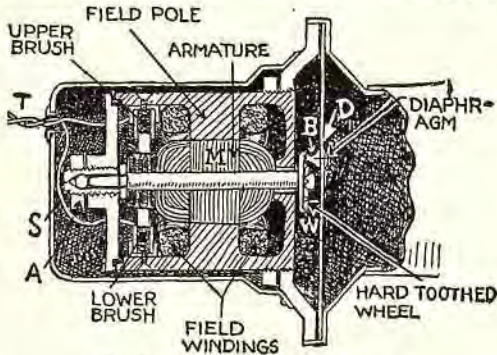
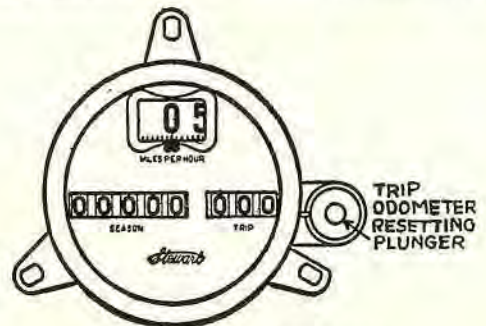
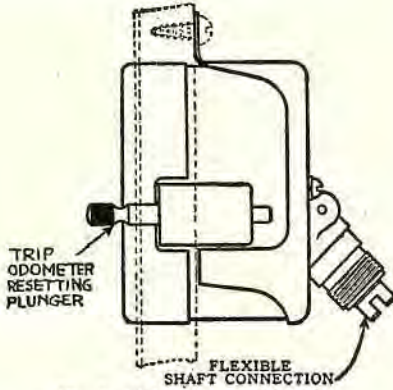
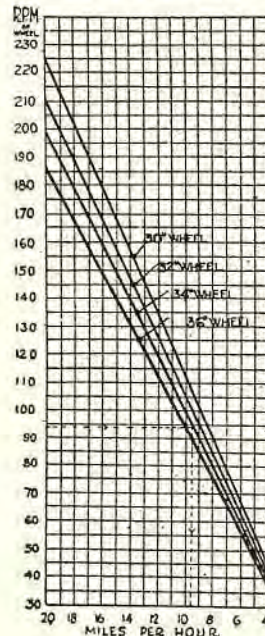

Fig. 5. Motor type of electric horn.
Fig. 8. Front view of speedometer.
Fig. 9. Side view of speedometer.
Fig. 10
Construction: An electric motor (M) (Fig. 5) of small size is enclosed in one end of the horn. On the right end of the armature shaft a case-hardened steel-toothed wheel (W) operates against a case-hardened steel button (B) securely attached to the metal diaphragm (D) (see also Fig. 6). The sound produced by the wheel (W) operating against (B) is transmitted through the diaphragm (D) and greatly magnified through the horn which encloses the diaphragm.
The Klaxon is used extensively on various makes of leading cars, and its principle of construction is that explained in Figs. 5 and 6. Several different types of Klaxon horns are manufactured. Some of the leading types for automobile use are shown in Figs. 8, 9, 10, and 11.
To adjust Klaxon 20L (Fig. 8): Loosen the locknut (A), and start the current by pressing the push-button. While it is sounding, twist the motor case until no sound is heard except the buzzing of the motor. Continue twisting, in either direction, until the note is loud and clear. When the note is as desired, tighten the locknut.
Fig. 8. Klaxon 20-L uses 7 amperes. It is a large, deep-toned horn; Fig. 9. Klaxon 12L uses 8 amperes. A medium-sized and popular type; also a deep-toned horn; Fig. 10. Klaxon-6 uses 5 amperes; Klaxette, (not shown) 3 amp.
To adjust the Klaxon 12-L and Klaxon-6 (Figs. 9 and 10): Loosen the screws and remove cover. You will find a locknut (A) (Fig. 5). While the motor is running adjust screw (S) until the note is as desired. This action forces the armature shaft with its wheel (W) against the button (B). Replace cover and tighten screws.
On the Klaxon 20-L, oil once a week through oil hole (O) (Fig. 8). Give two drops of "3 in 1" oil.
Resetting odometer: Pull out the trip odometer, resetting the plunger (Fig. 8), after which turn to right or left as much as necessary to show the figures you desire to have appear. After resetting the odometer, do not fail to push the resetting plunger in as far as possible, or else the trip odometer will not register. The speedometer is a very delicately adjusted instrument, and must be handled carefully to insure continued satisfactory service.
Flexible shaft connection: Make sure that the clutch in the flexible shaft enters the slot in the neck of the speedometer (shown in Fig. 9, "Flexible Shaft Connection"). The sliding bar on the other end of the flexible shaft enters the slot in the driving shaft at transmission.
The actual speed may be obtained from the chart in Fig. 10. Supposing the revolutions in the minute to have been 94, a horizontal line is followed until it meets the slanting line representing the diameter at the front wheel, assume it to be 34". Dropping down vertically, the speed is seen to be 9.6 miles per hour—which should correspond to the speedometer readings. If carefully made, this test is quite accurate, and requires little time.